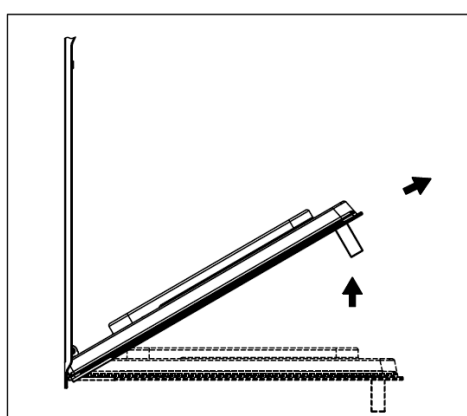

Fig. 2
- Now, shutting the door slightly, you can lift it out by pulling out the hooks “A” as shown in figure 2.